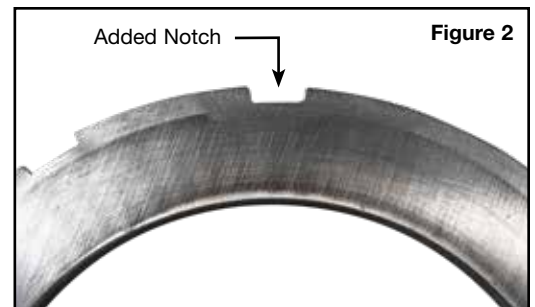

Figure 2
2. Modify Backing Plate with Additional Notch (Figure 2)
- g. Use a file to clean up the notch. Recheck with steel plate, filing as necessary (Figure 2).